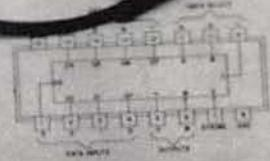

Fig. 17. Pin diagram for 74151A.
Figure 16 shows the circuit diagram for this experiment. You'll notice that the numbers for the IC pins included on the diagram. For those, you'll have to refer to Fig. 17, which shows pertinent 74151A data. For the data inputs, you'll see an eight-pole DIP switch in conjunction with 10KΩ pull-up resistors. For the Select and Strobe lines, finally, you'll use the master and slave switches.
4. Next, connect the master data switches to the Select and Strobe lines on the IC, using Fig. 17 as a guide. Initially, set SW1 through SW8 to 0.